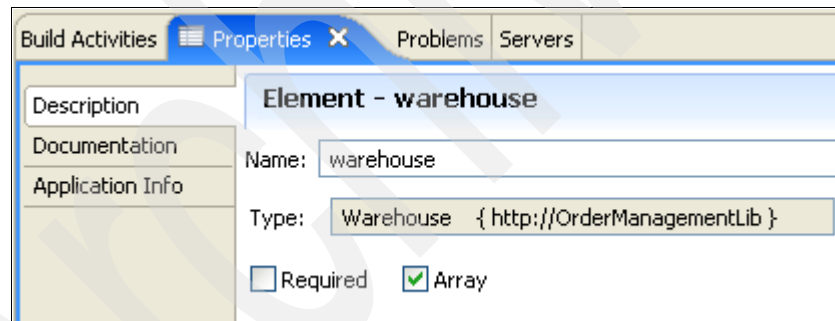

Figure 2-35 How to put an array data type in your Item business object
4. Select the warehouses attribute and go to the Description tab of the Properties view. Select **Array** as shown in Figure 2-35.